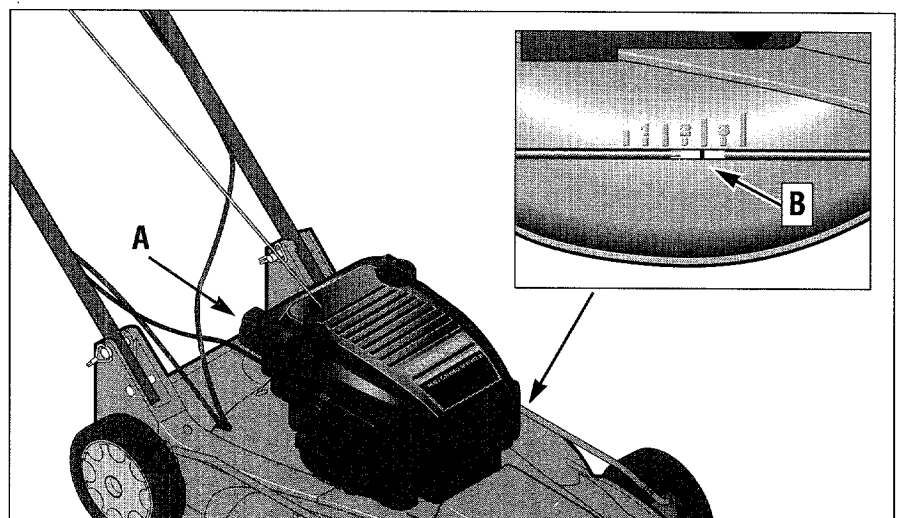

Figure 4-1: Location of Cutting Height Adjustment Handle and settings.
The Cutting Height Adjustment positions are shown in Figure 4-1. The cutting height can be adjusted from *1/2 inch* to *3-1/2 inches*.
A. Turn the handle (A) *clockwise* to lower the blade height or *counterclockwise* to raise the blade height.
B. Numbers indicating the cutting height are located on the left side of the mower deck. See inset in Figure 4-1. (Lines between numbers indicate 1/2 inch increments.) The approximate cutting height is indicated by the line (B) on the height adjuster rod.